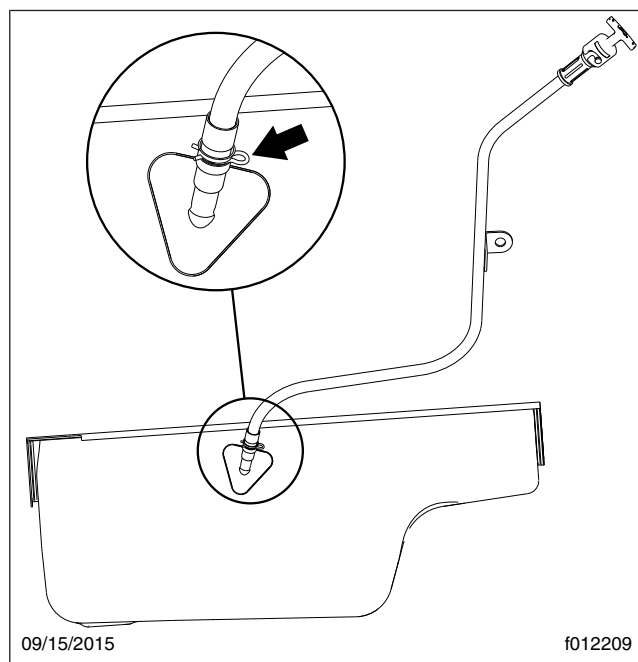

Fig. 1, Retaining Pin
2. Inspect the dipstick tube and oil pan nipple connection for the retaining pin. See Fig. 1.
4. Install the retaining pin (23-14023-000). See Fig. 1 and refer to drawing D01-33694.